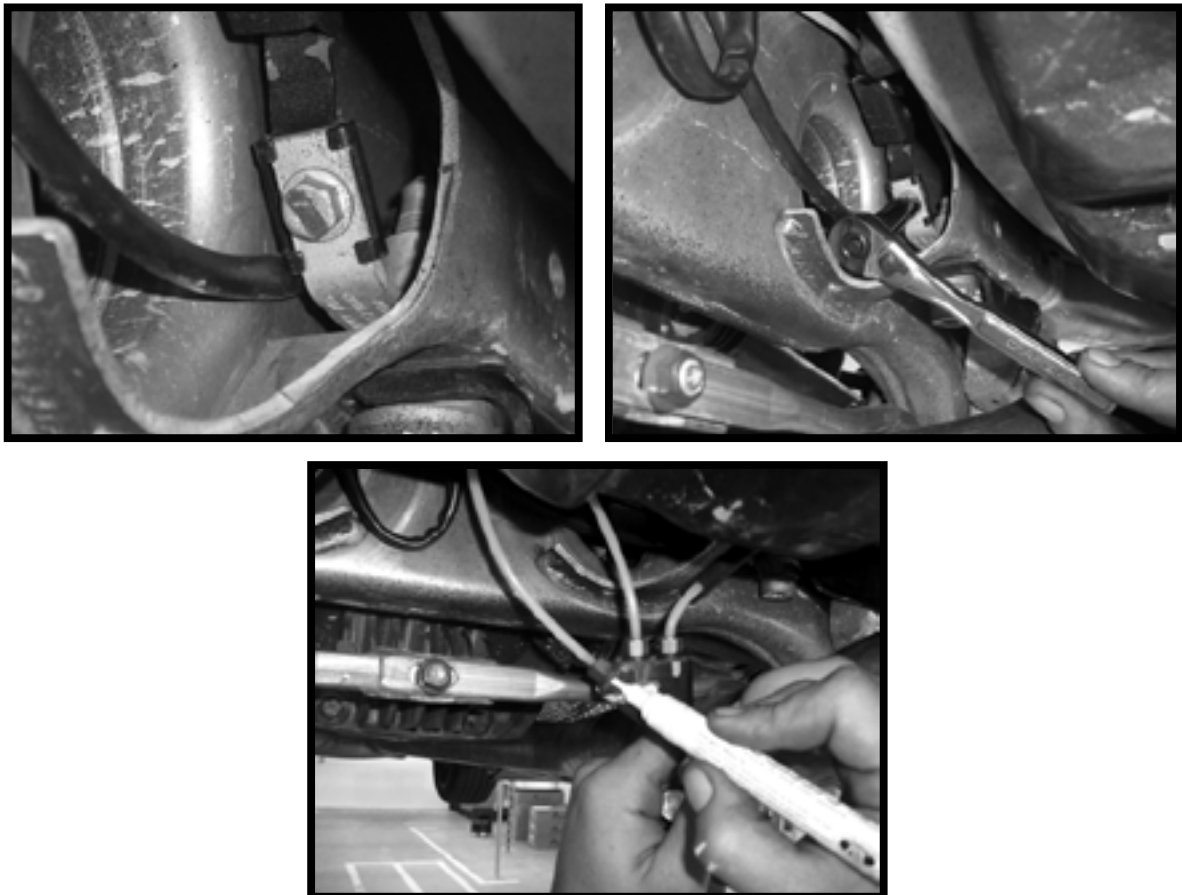

FIGURE 10-2
- 5.0 DISCONNECT THE AIRLINE AND THE MOUNTING NUTS FROM THE AIR BLOCK, AND MARK AIR LINES. (Figure 10-2).